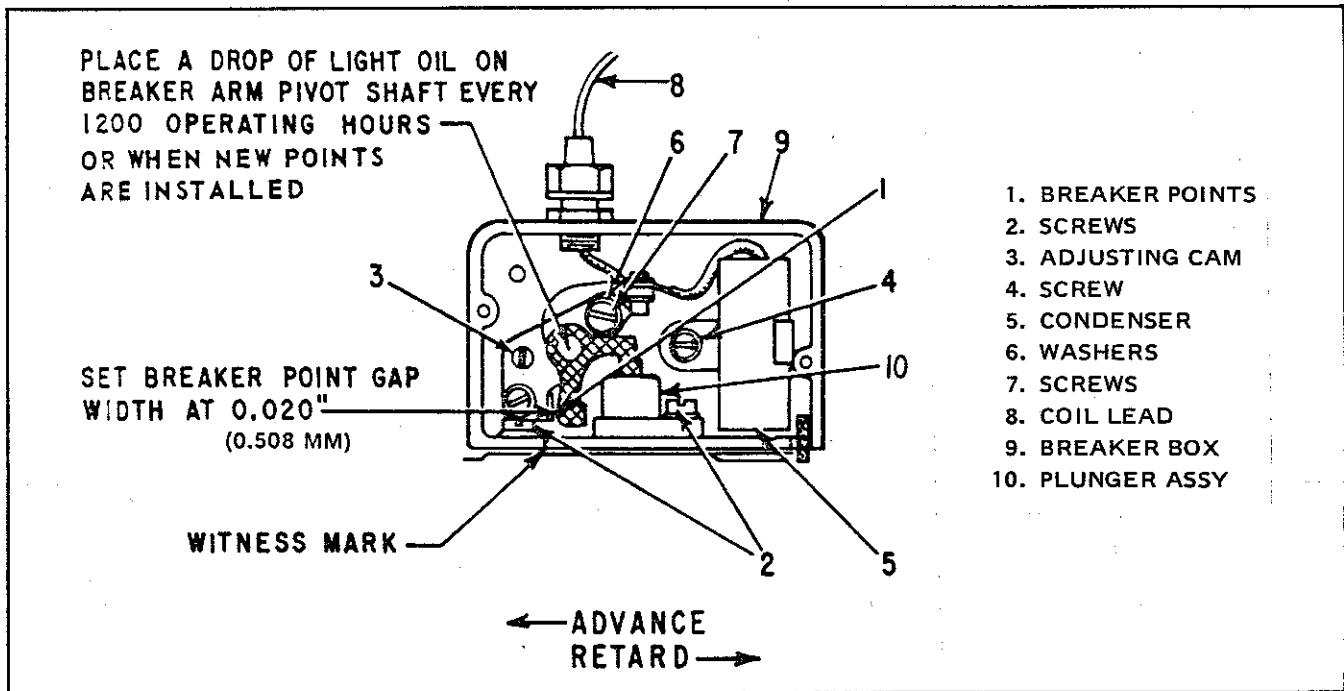

Figure 5-1. Breaker Point Replacement and Adjustment
- (2) If points are stuck, deeply pitted or badly burned the breaker point assembly (6, figure 8-9) must be replaced. Remove the two spark plugs (24) so that engine may be cranked easily by hand. Disconnect the coil lead (8, figure 5-1) and condenser (5) lead from breaker point assembly. Remove two screws (7) and washers (6); lift out breaker point assembly. Remove screw (4) and condenser (5).
- (4) Crank engine slowly until breaker points (1) are fully open. Check the gap with a feeler gage. Gap should be 0.020 inch (0.508 mm). If gap is too wide, turn adjusting cam (3) clockwise. If gap is too narrow, turn cam (3) counterclockwise. Crank engine several times and recheck breaker point gap.
- (5) **Timing:** Check that the witness mark on breaker box (9, figure 5-1) is aligned with witness mark on cylinder block assembly. When the two witness markers are aligned, timing is correct. Spark timing can be advanced or retarded by loosening two screws (2) and shifting the breaker box (9); then, tighten screws (2).